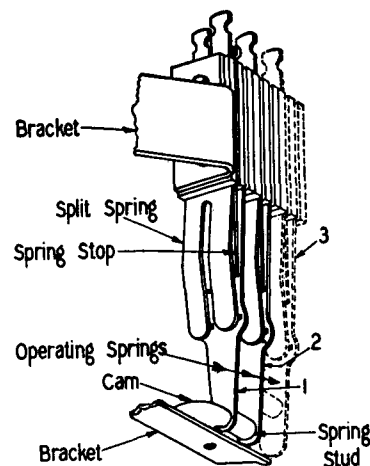

Fig. 1
3.04 Looseness of the separators (studs) in operating springs 2 and 3 (see Fig. 1) is not objectionable provided they are not loose enough to rock.